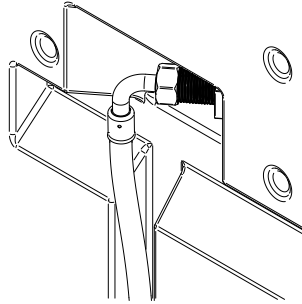

Fig. 6
6.12 **Cold mains feed connection:** The connection to the cold-water mains inlet is made using the 15 mm compression flexible hose supplied. Ensure the rubber sealing washer supplied with the hose is installed when the hose is fitted. When tightening ensure the fill valve within the tank is not rotated. If the valve is rotated it may not function correctly with the risk of flooding. The hose is made water-tight with a sealing washer on assembly, nip tight to 4 to 5 Nm for water-tight seal. **(Do not overtighten)**. See Fig. 6.